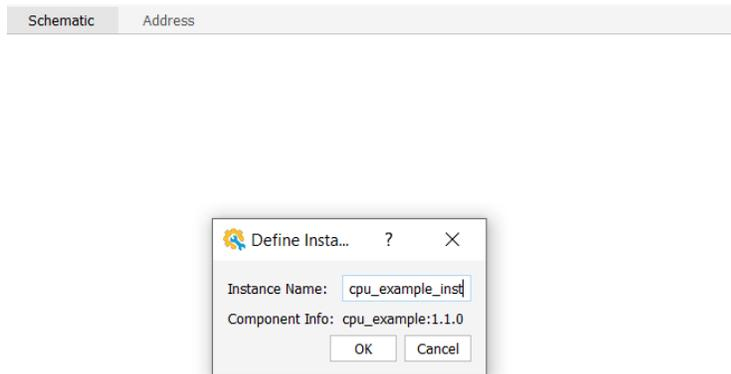

Figure 3.4. Specifying Instance name
5. Confirm or modify the module instance name. Click **OK** (Figure 3.4).